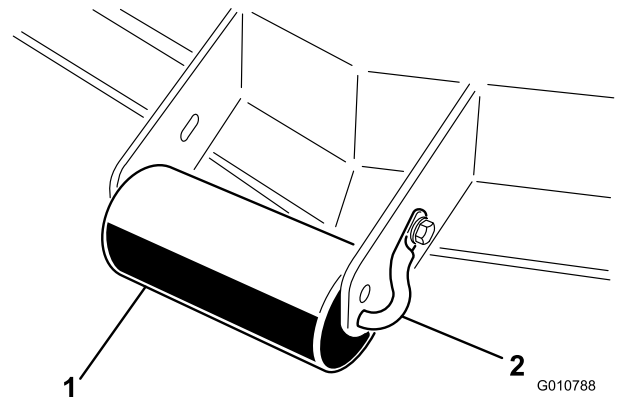

Figure 10
1. Remove the capscrew and nut securing the roller shaft to the cutting unit bracket (Figure 10).